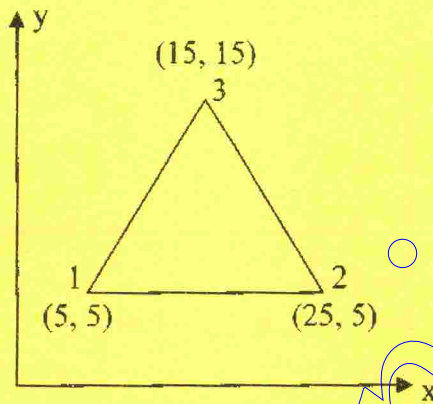

Figure 6 Triangular Element
14. (a) For the plane strain element shown in the Figure 6, the nodal displacements are given as : $u_1 = 0.005$ mm, $u_2 = 0.002$ mm, $u_3 = 0.0$ mm, $u_4 = 0.0$ mm, $u_5 = 0.004$ mm, $u_6 = 0.0$ mm. Determine the element stresses. Take $E = 200$ Gpa and $\gamma = 0.3$. Use unit thickness for plane strain.